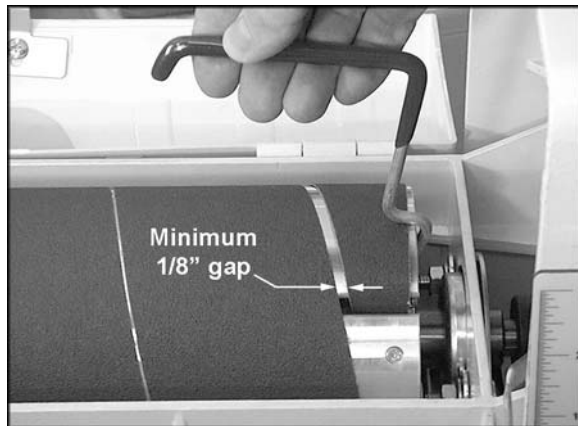

Figure 15
10. Turn the TUFTool counterclockwise and lower it onto the abrasive strip, making sure it is holding the paper tight (Figure 15).
IMPORTANT: Leave a gap – at least 1/8” – between the tapered strip and the closed end of the slot (Figure 15) to allow strip to be pulled into the fastener as needed. If necessary, trim the outside edge of the abrasive strip.